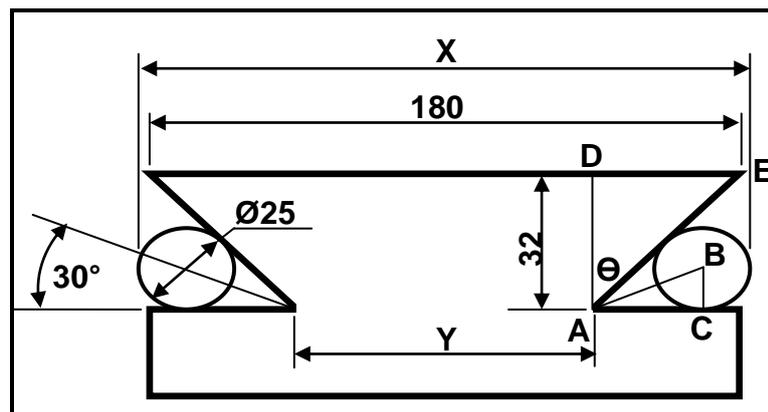

FIGURE 6.2
6.2 FIGURE 6.2 below shows a dovetail part. Calculate distances **Y** and **X**.